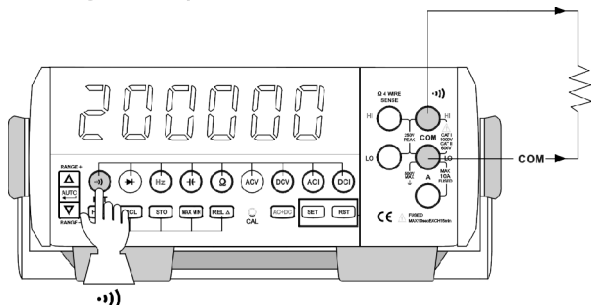

Figure 12
6. Open/closed circuit measurement (See Figure 12)